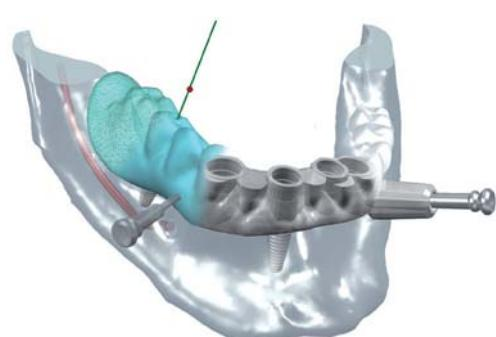

Figure 3: Impression of a surgical guide, deducted from the 3D model in Figure 2 (picture courtesy of Nobel Biocare)
Computer Tomography (CT) images are taken to reconstruct a 3D model of e.g. the patient's mandible. Figure 2a shows such a reconstructed model. With the help of this model and the raw CT-images, the position and angle of the implant are determined and added to the model (Figure 2b). At this stage, a surgical guide can be manufactured that defines the drill direction, the green lines in Figure 2. Such a surgical guide is displayed in Figure 3.